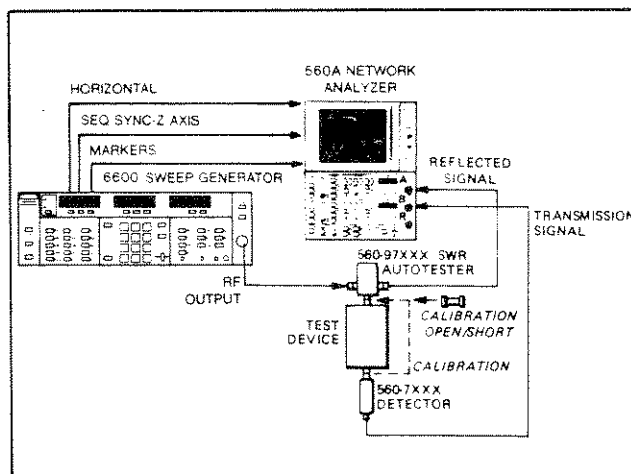

Figure 3-4. Return Loss and Transmission Loss/Gain Measurement Equipment Setup
- a. A or B Measurement Controls. These pushbuttons connect the output of the SWR Autotester to A or B Channel for return loss measurements, or the output of the RF Detector to A or B Channel for transmission loss/gain or absolute power measurement. See Figure 3-4 for a typical transmission loss/gain and return loss measurement setup.